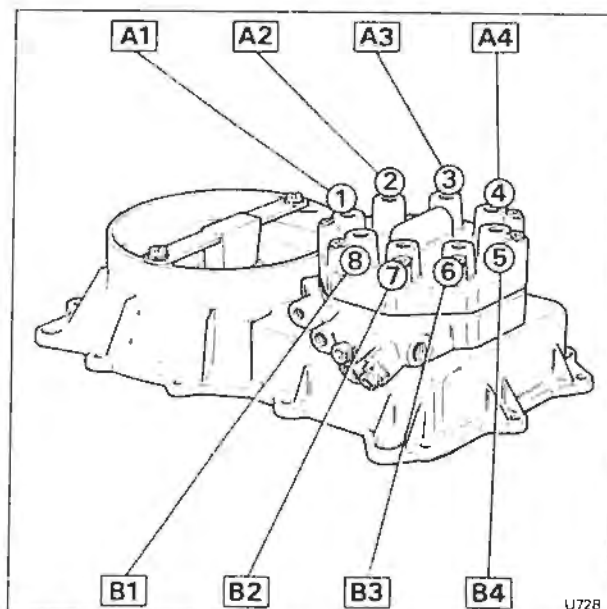

Fig. B2-40 Fuel distributor connections
**Note** Outlet one from the fuel distributor should always be nearest to the fuel inlet connection. Figure B2-40 indicates which test line and switch of the test equipment are connected to which engine cylinder.
### Mixture control unit (see figs. B2-40 and B2-45)